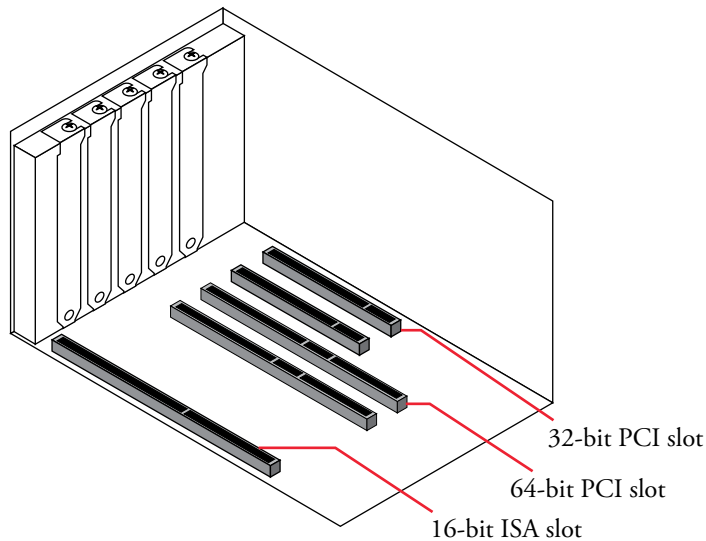

Figure 2-1. Locating a 32-bit or 64-bit PCI expansion slot
4. The DirecPC adapter should be installed in a 32-bit Peripheral Component Interconnect (PCI) expansion slot, but it can also be installed in a 64-bit PCI slot if there are no 32-bit slots available inside your computer. Figure 2-1 shows 32-bit and 64-bit PCI slot connectors, and a 16-bit Industry Standard Architecture (ISA) slot that may also be near the PCI slots. Observe that the 32-bit PCI slot is much shorter than an ISA